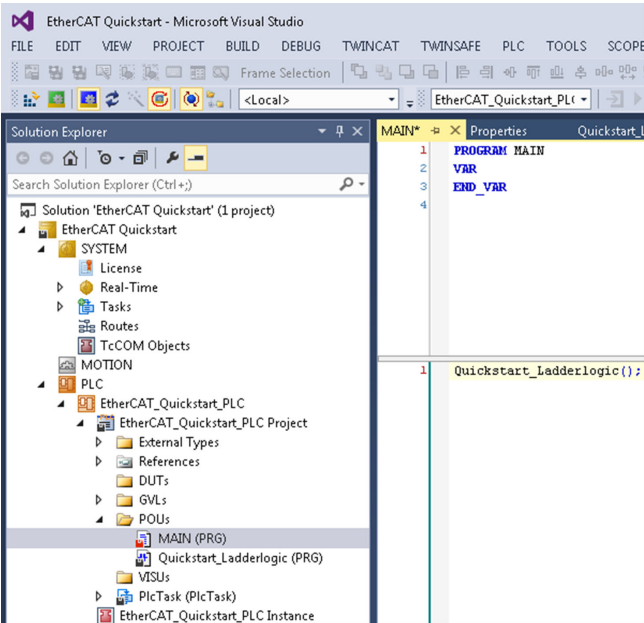

Figure 45. PLC Project Main
3. Open the **MAIN (PRG)** tab. On the first line, type **Quickstart_Ladderlogic()**; (see Figure 45).